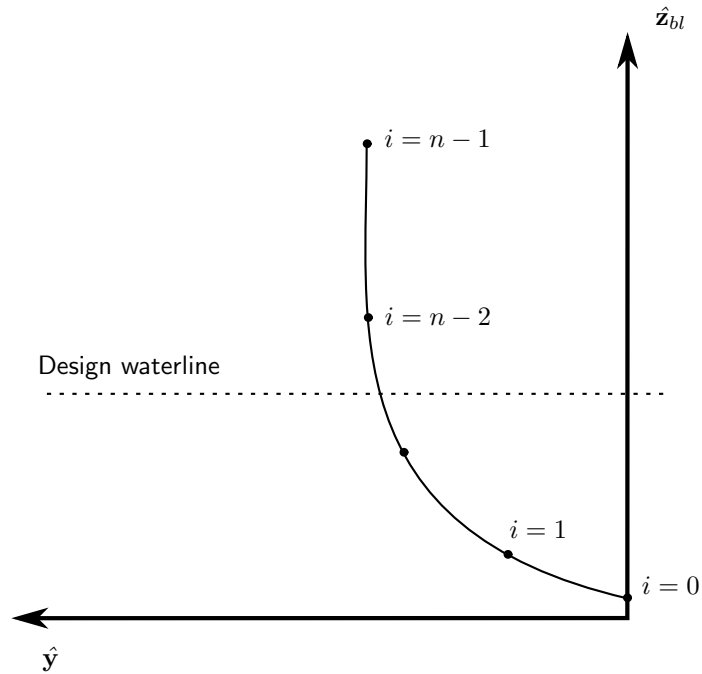

Figure 48: A example hull line.
- ☞ It is recommended that hull lines crossing the calm water line be defined in an order of increasing \hat{z} as shown in Figure 48.